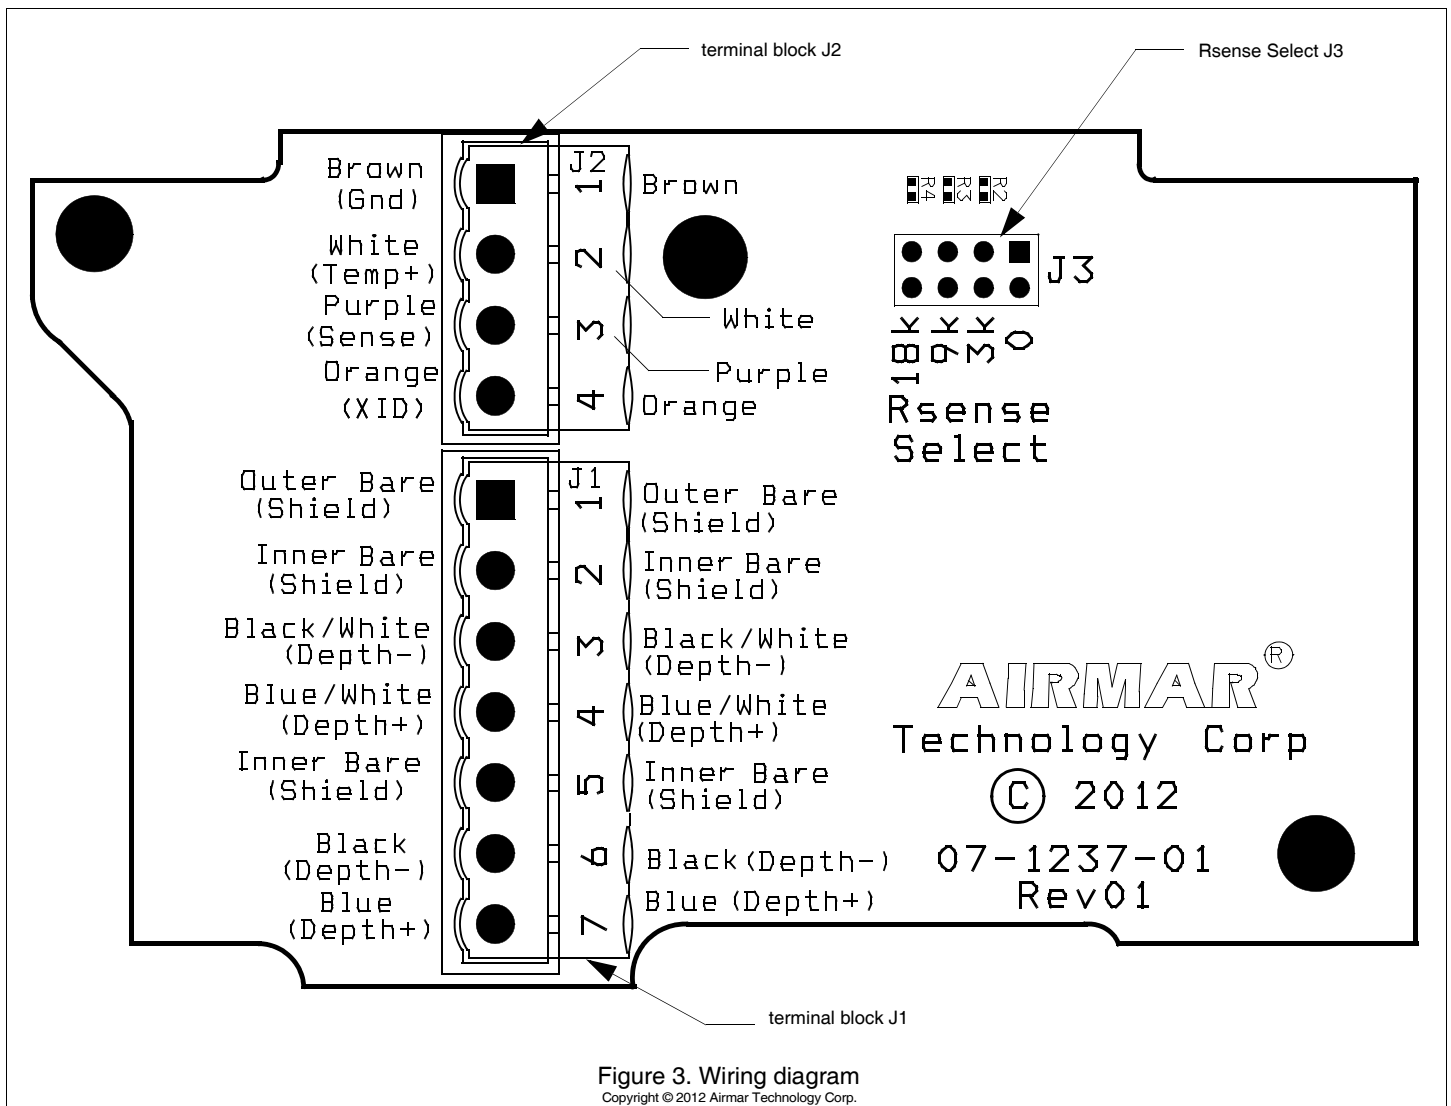

Figure 3. Wiring diagram
An Rsense connector is required at J3 (see Figure 3) The placement of the connector depends upon your model. Find the model name printed on the cable tag. Then identify the Rsense Select number on the table below. Mate the Rsense connector to the appropriate pins at J3 using needle nose pliers.
1. Hold each terminal block oriented the way that it will be mated to the pins on the circuit board (see Figure 3). This is necessary so the wires are connected to the correct terminals and not in the reverse order.